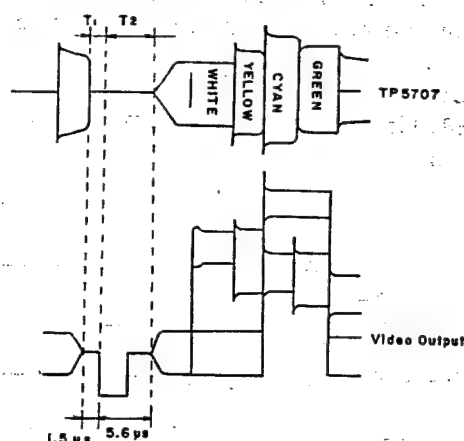

Figure 2-18.
2. Connect an oscilloscope to TP5702 and video output terminal and make sure that the chroma signal output is just as shown in Fig. 2-18.